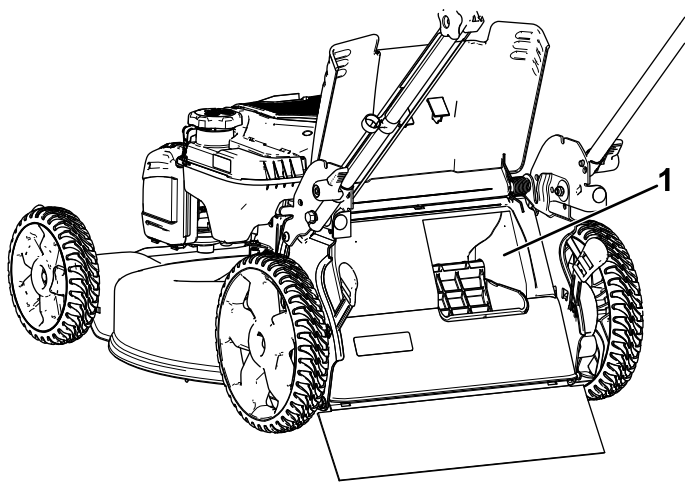

**Figure 18**
- **To bag the grass and leaf clippings**, press the button on the bag-on-demand lever and move the lever forward until the button on the lever pops up (Figure 18).